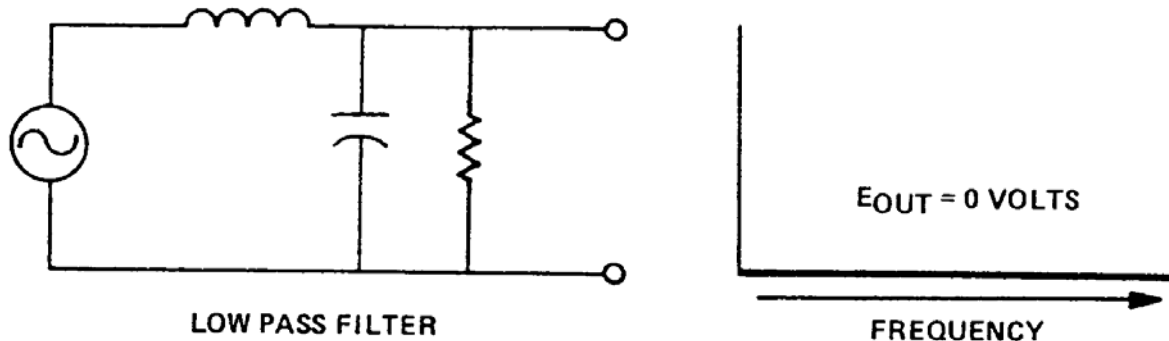

Figure I-1. Open Inductor or Shorted Capacitor
b. Open Inductor. If the series inductor in the LPF in Figure I-1 opens, this will break the circuit, preventing current flow. Since the inductor is located in the series portion of the circuit, the circuit operation will stop completely and the output voltage will fall to zero. A quick test for an open inductor can be performed with the ohmmeter. Depending on the size and number of turns in the coil, a good inductor will indicate continuity with a small amount of resistance. Very high or infinite resistance indicates an open.
c. Shorted Capacitors. A LPF that contains a shorted capacitor (Figure I-1) will yield the same frequency response curve as an open inductor would. This is because the shorted capacitor would short out the load device, leaving the inductor as the only opposition in the circuit. As with any short, the current being drawn from the source would increase. At low frequencies, the inductive reactance could be low enough to allow the excessive current to burn something out; a visual inspection might give the technician a clue as to the source of the trouble.
e. Open Capacitors. If the capacitor in Figure I-1 were to open, the resulting frequency response curve would be similar to the one for an inductor that contains a partial short (Figure I-2B).